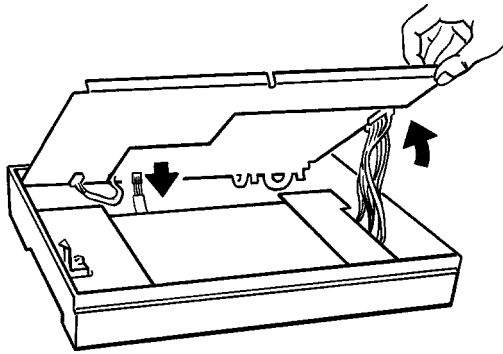
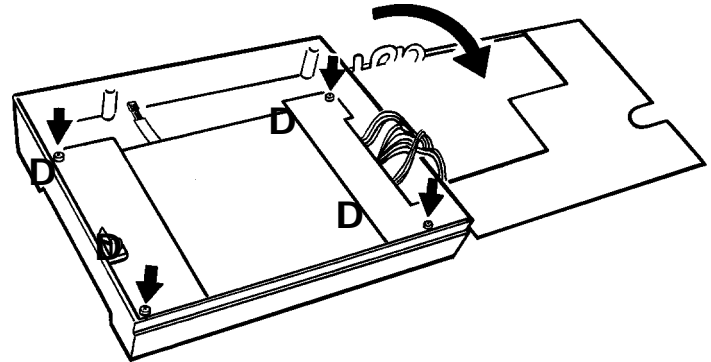
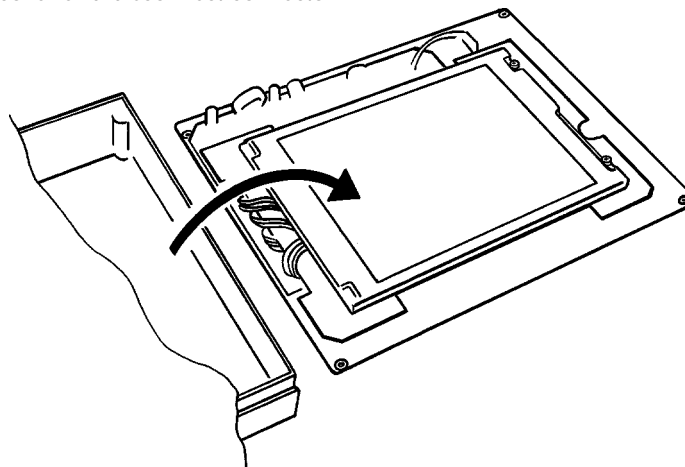

Figure 4.10.2c Lift inner cover and disconnect connector
Figure 4.10.2d Cover open
Figure 4.10.2e Display unit removal
- b. Carefully remove the door inner cover, by lifting the cover and disconnecting the connector as it becomes accessible (figure 4.10.2c). Swing the cover over to reveal the display unit (figure 4.10.2d).
- c. Remove the four display unit securing screws ('D' in figure 4.10.2d) and lift the display unit out and lay it on the inner cover (figure 4.10.2e).